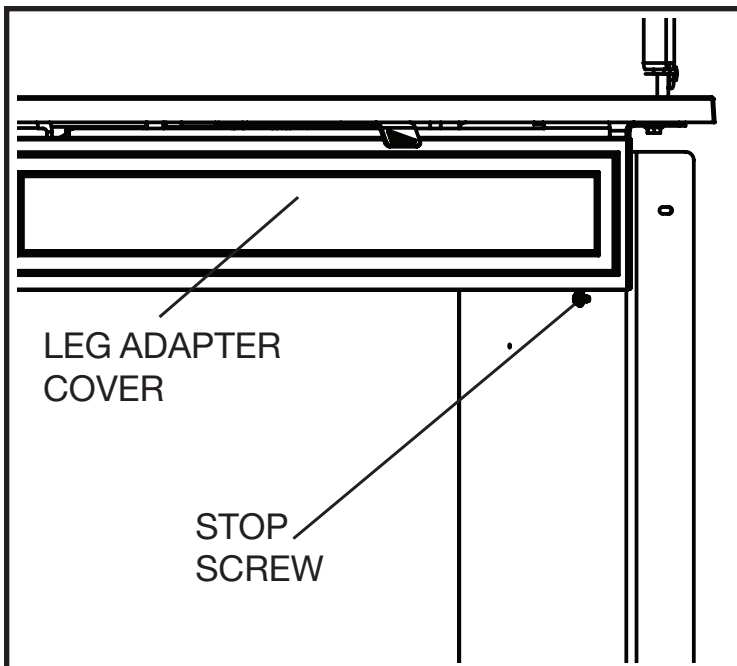

Figure 7: Stop screw location.
9. Remove the stop screws in the ends of the curved brackets behind the leg adapter cover (Figure 7).